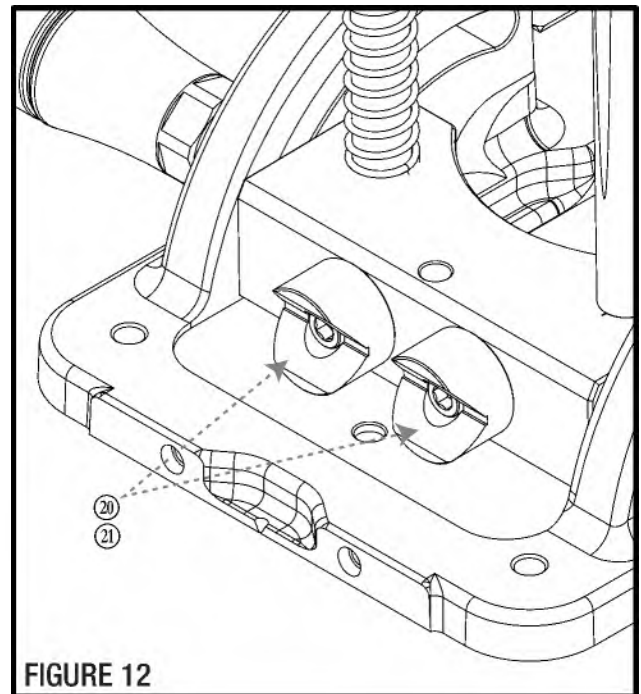
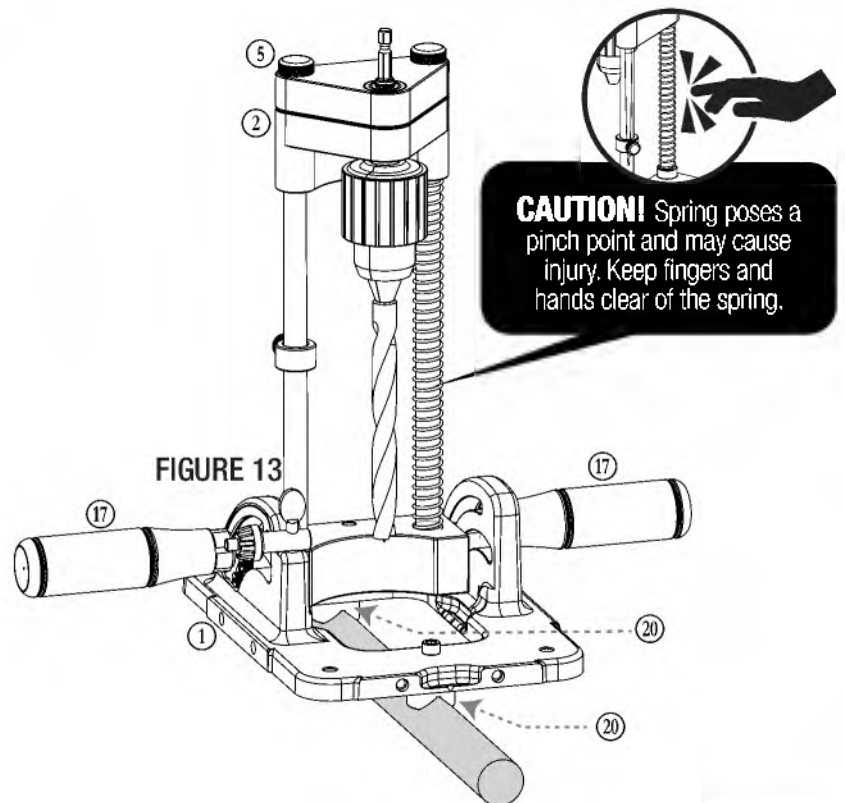

FIGURE 12
FIGURE 13
1. Utilize the Centering Buttons (20) that are stored on the back of the Base. **FIGURE 12.**
2. Begin by removing the Centering Buttons and Centering Screws (21) from their stored position by unthreading them with the Allen Wrench Tips machined into the Lock Knob (5). Once removed, make sure to completely remove the Centering Screw from the Centering Button.
4. Place the tool on a dowel rod to align the centering buttons, then tighten the centering screws with the Lock Knob. **FIGURE 13.**